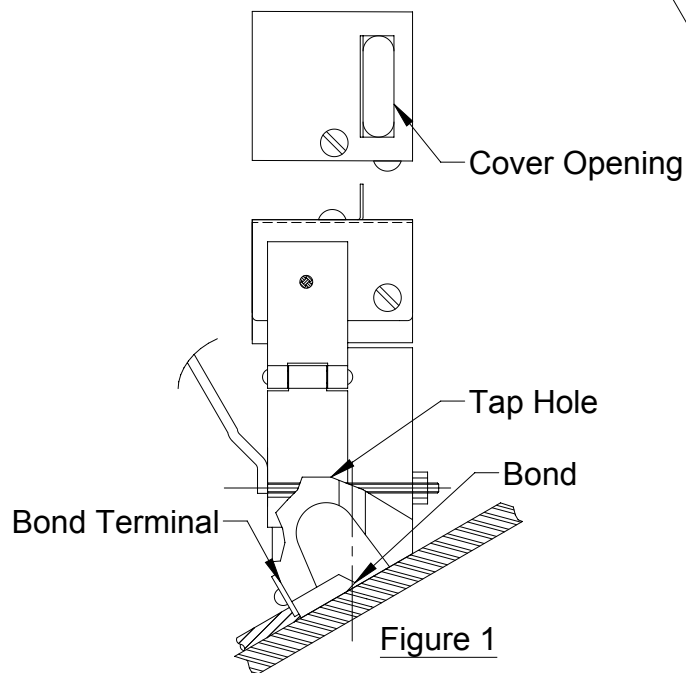

Figure 1
- Place bond in welder with angled mold surface against frog. Position end of terminal against bond clip, while the end of terminal should be centered under tap hole (See Figure 1 & 2). Bond size and welding material information is located on mold tag.
- Tap welding material container to loosen starting material. Place a portion of the starting material on top of welding material; close the "FX" cover and place remaining material near opening in top of cover (See Figure 1).
- Use handle to hold mold firmly against surface (As shown in figure 1 & 2). Ignite starting material on cover edge with flint igniter. Withdraw igniter quickly to prevent fouling.